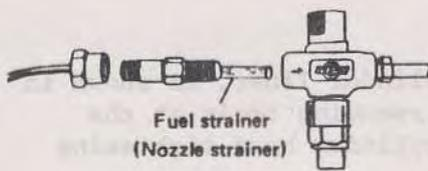
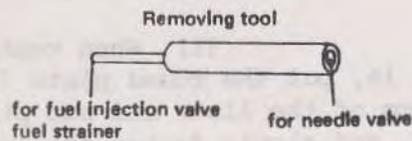

Fig. 17
Fig. 18
(1) When you take out the fuel strainer from the fuel strainer case, (Fig. 17), use the tool specially provided for this purpose, as shown in Fig. 18.